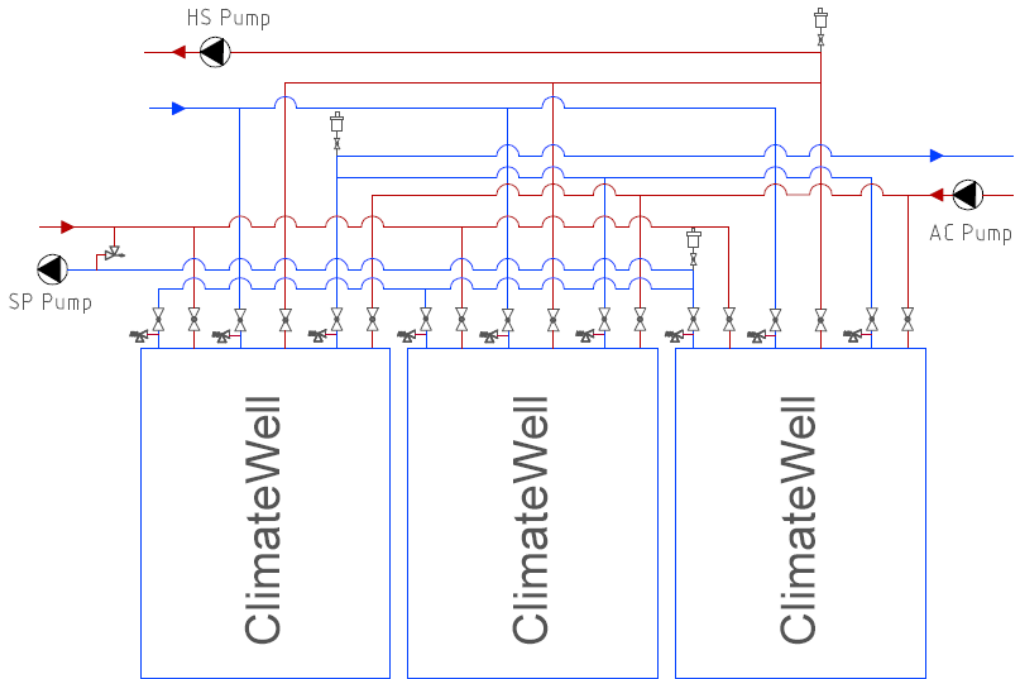

Figure 22: Connection with several ClimateWell units in parallel. Reversed return pipes are used in order to obtain the same flow in each unit for any flow.
- Install a pressure operated bypass valve before the first ClimateWell unit in order not to harm a powerful pump, see Figure 22.